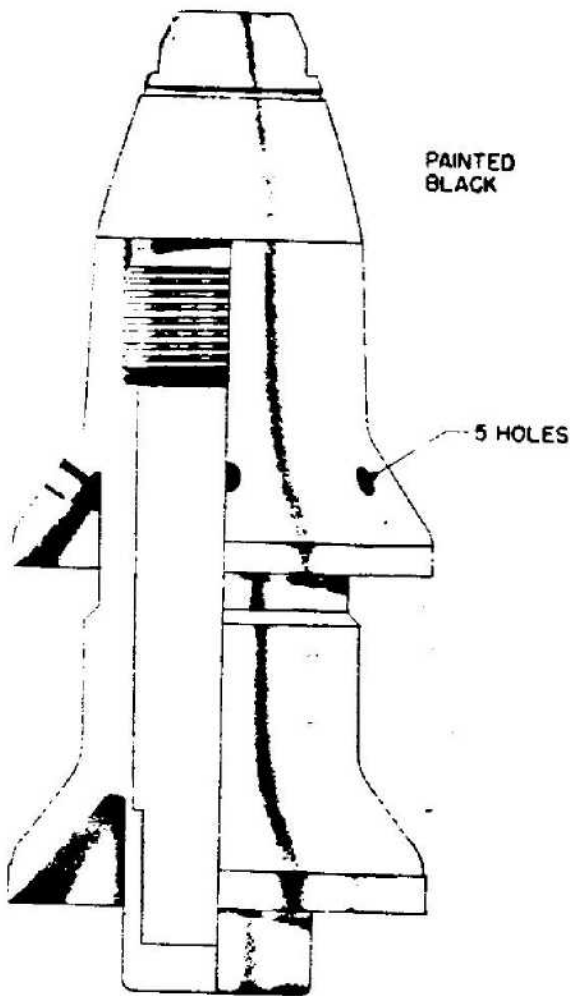

Figure 338—H. E. Projectile for Tapered Bore Gun, 28-20-mm Sprgr. Patr. Pz. B41
**GERMAN NOMENCLATURE:** Sprgr. Patr. Pz. B41 (Spreng-granate patrone Panzerbuchse 41). (See fig. 338.)